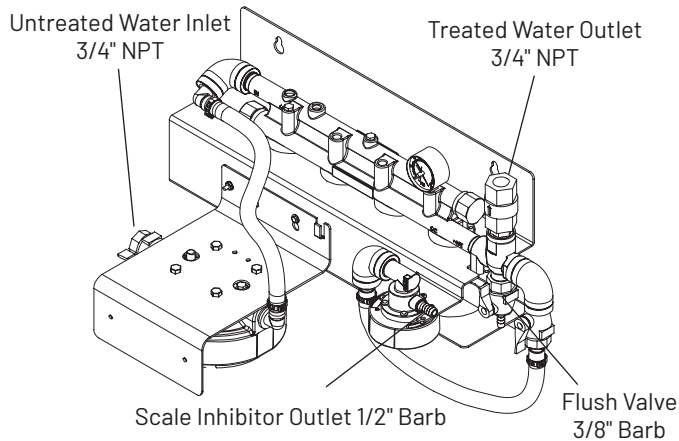

Figure 2
- Mount the manifold using four (4) screws in the bracket mounting holes.
- Connect the treated water outlet port to the equipment being served (Figure 2).
- Connect the untreated water to the inlet fitting on the pretreatment head (Figure 2).
- Attach 3/8" I.D. tubing to the flush valve fitting (Figure 2). Run the other end of the tubing to a drain.
- Turn off the flow valves for the inlet, flush and scale inhibitor cartridge (2SR-BW) (Figure 2).